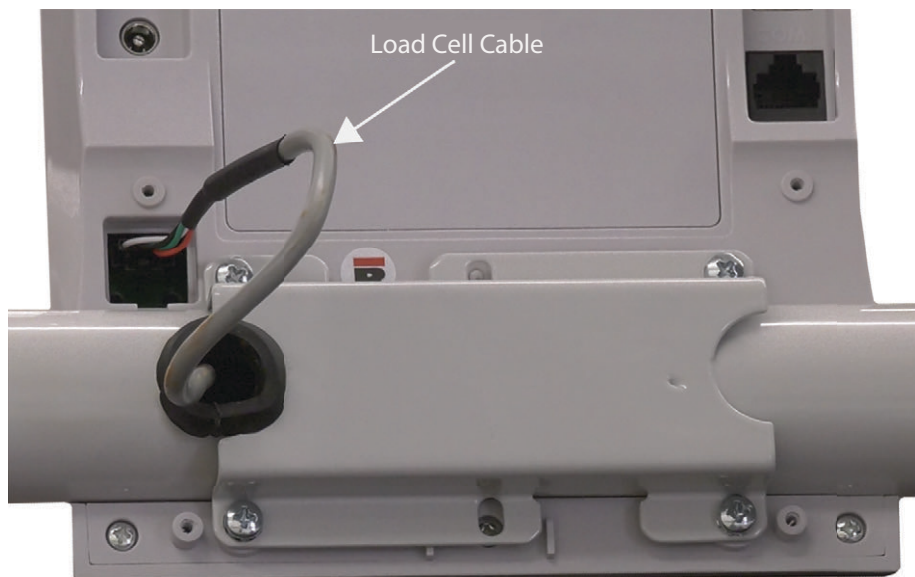

Figure 3. Load Cell Cable Connection Location
5. Disconnect the load cell cable (see Figure 3).
6. Reconnect the load cell cable to the indicator (see Figure 3).
3. Disconnect the load cell cable from the indicator (see Figure 3).